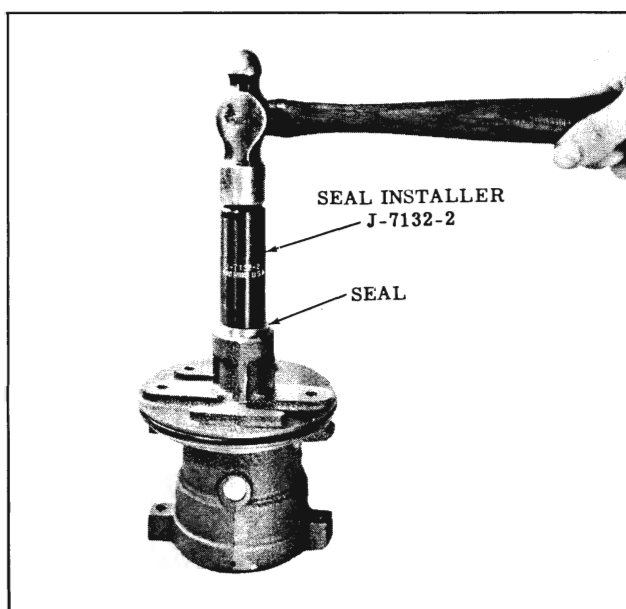

Fig. 4-29 Installing Pump Seal
2. Apply Special Seal Lubricant (Part No. 567196) to the sealing lips of a new drive shaft seal and drive the seal into the pump body using Tool J-7132-2. (Fig. 4-29) Remove tool.